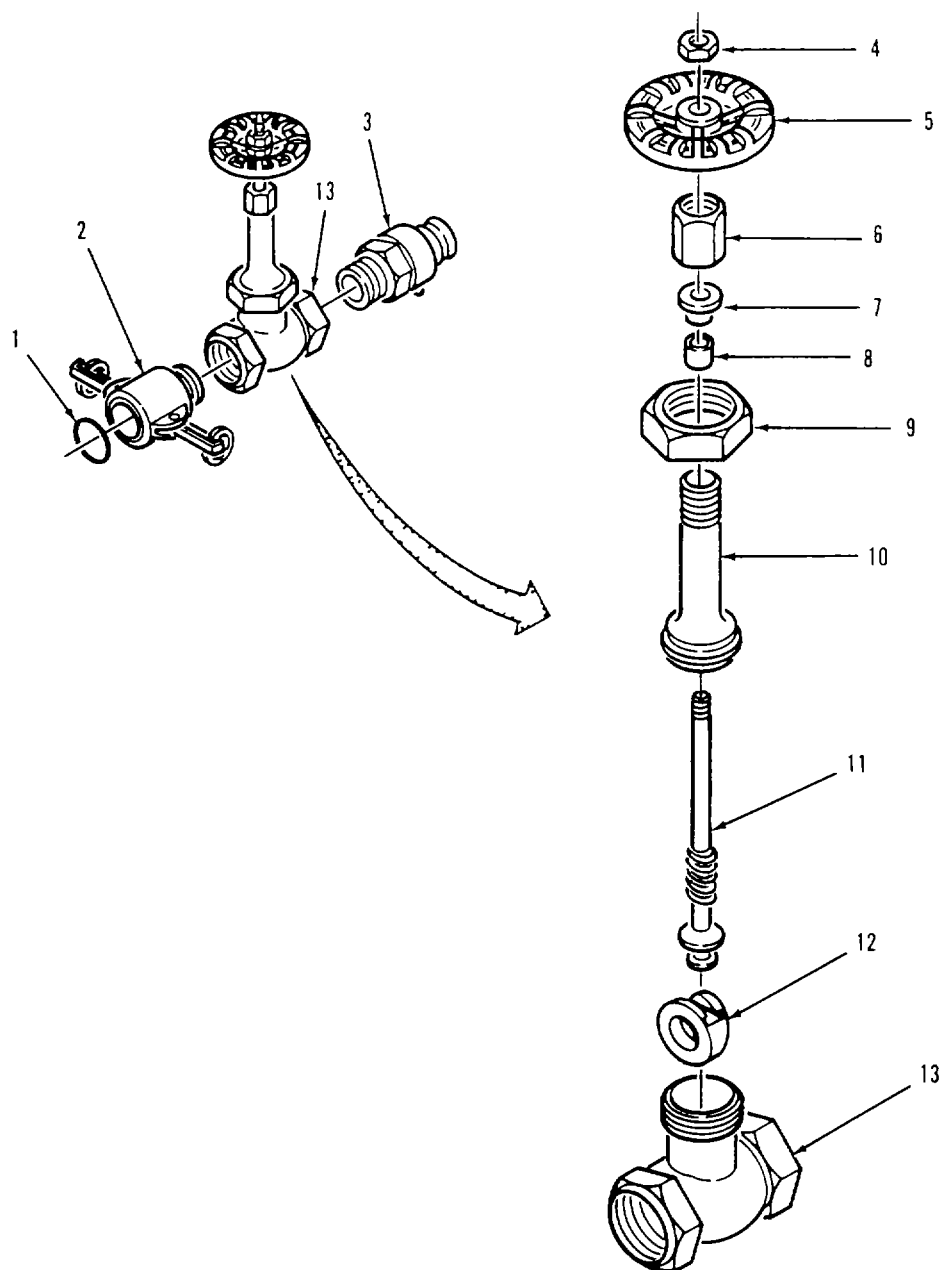

Figure 4-2. Gate Valve Assembly (2-inch) Disassembly.
a. Disassembly. Refer to figure 4-2.
- (1) Clamp gate valve body (13) in vise.
- (2) Remove gasket (1) from female coupling (2).
- (3) Using pipe wrench, unscrew female coupling (2) from valve body (13).
- (4) Using pipe wrench, unscrew male coupling (3) from valve body (13).
- (5) Turn handwheel (5) fully clockwise to close valve.
- (6) Remove handwheel nut (4) and handwheel (5) from stem (11).
- (7) Using pipe wrench, remove bonnet ring (9) from valve body (13) Lift bonnet (10) and attached parts from valve body.
- (8) Slide disc (12) from end of stem (11).
- (9) Unscrew packing nut (6) from bonnet (10).
- (10) Remove packing gland (7) and packing (8) from bonnet (10).